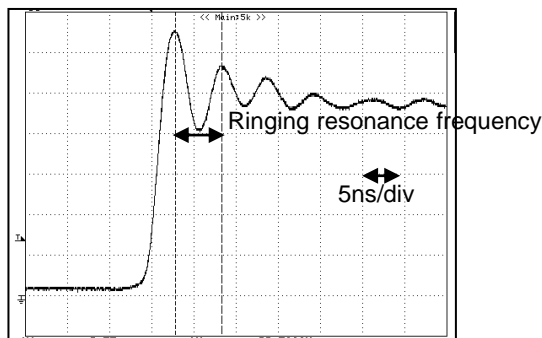

Figure 76. PWM Output waveform (Measure of spike resonance frequency)
1. Measure the ringing resonance frequency “ f_1 ” of PWM output waveform (when rising) by using low capacitance Probe (e.g. FET probe) at the OUT terminal. (Figure 76)